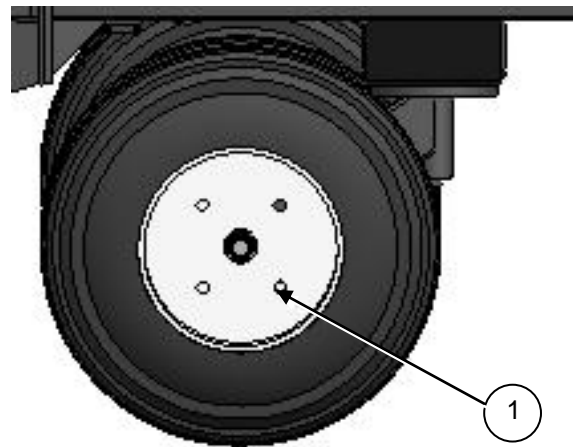

FIG. 4.2
Check wheel lug nut 1, FIG. 4.2 tightness after the first two (2) hours of operation, again after the first ten (10) hours, then periodically.